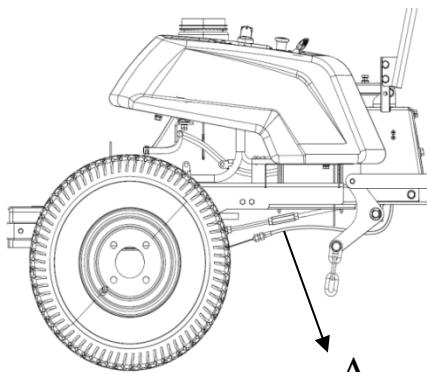

Fig. 21
- If the right wheel need to be adjusted, locate the position A (Refer to Fig. 21).